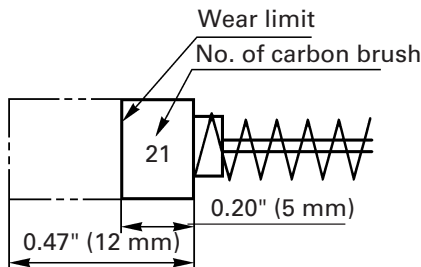

Fig. 6
4. Inspecting the carbon brushes (Fig. 6)
NOTE: Use HITACHI carbon brush No.21 indicated in Fig. 6.